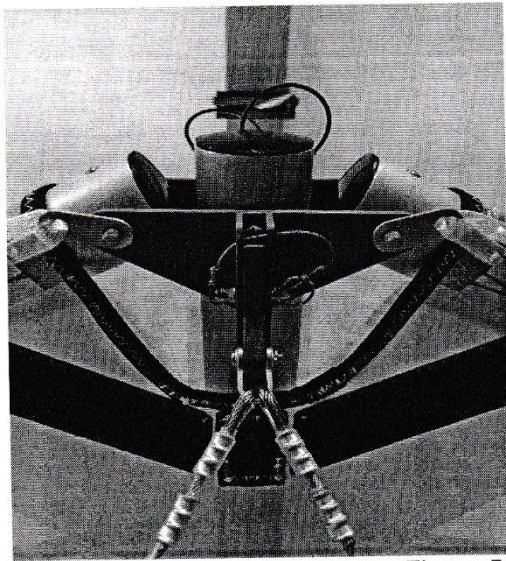

Figure 59
3. Unscrew the sail mount fixing nuts at the nose of the wing (fig. 59). Remove the sail mount tangs from the bolts and replace the fixing nuts.